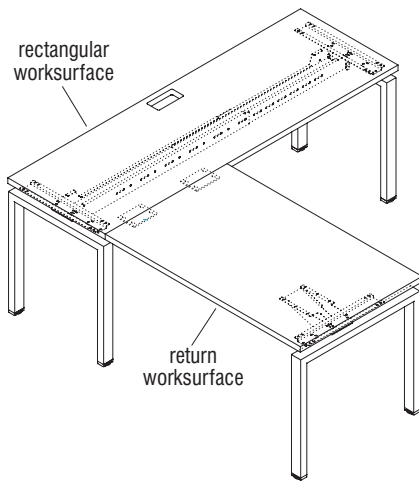

Figure 3 - Return with Standard Rectangular Worksurface
- See the illustrations on this page for configuration possibilities, splice plate and peninsula support frame usage (Figures 3, 4, 5 & 6).